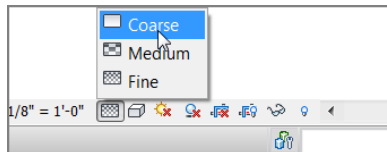

FIGURE 2.17: Sometimes, setting the graphic display to Coarse can make the placement of other walls easier.
4. On the View toolbar, set the detail level to Coarse, as shown in Figure 2.17.